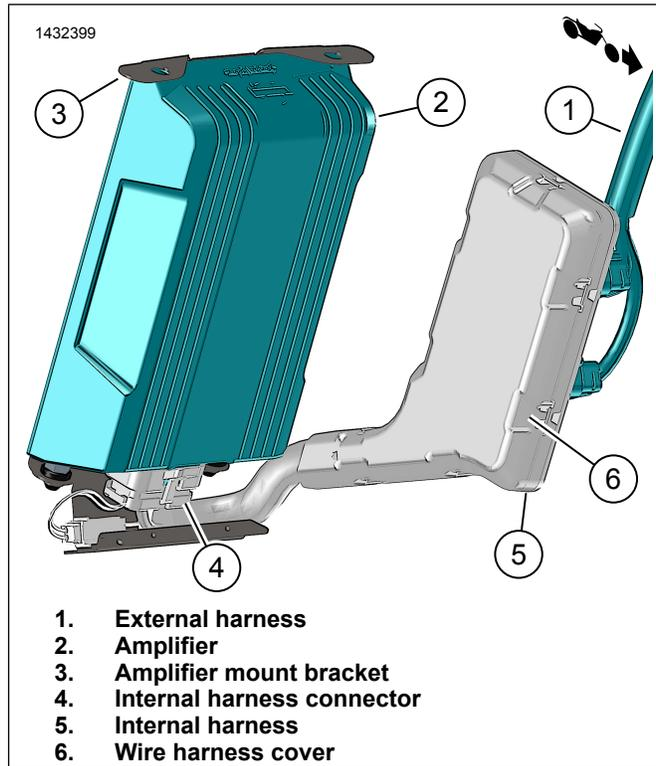

Figure 14. Right Saddlebag Amplifier Assembly
6. Figure 14 Connect internal harness connector (4) to amplifier (2).
10. Figure 14 Install wire harness cover (6).